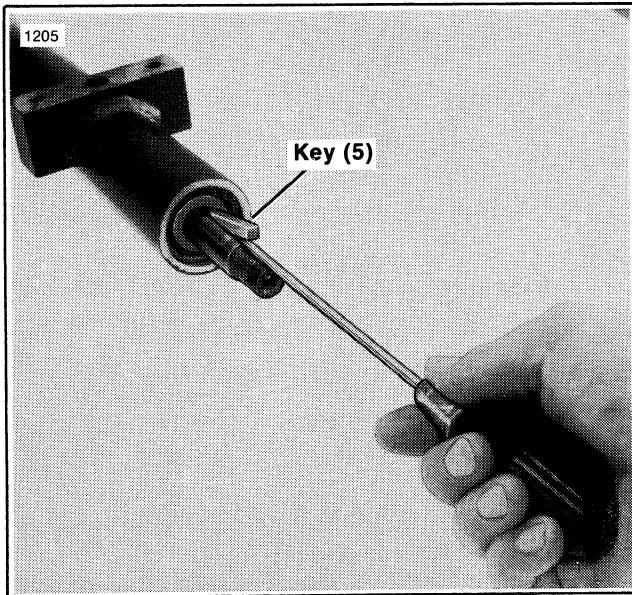

Figure 3-3. Removing Key
7. Remove key (5) from axle (10) (Figure 3-3).